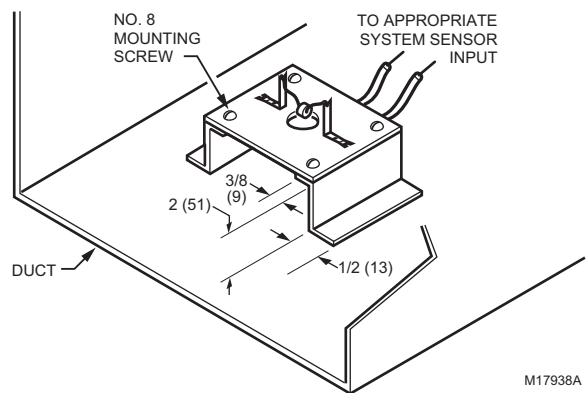

Fig. 6. Mounting C7150B [C7150B1004 shown].
1. Install on a mounting bracket (not included) inside the mixed air or discharge air duct using No. 8 mounting screws and nuts. (See Fig. 6).
NOTE: Fig. 6 displays bracket (not included) and suggested bracket dimensions in in. (mm).